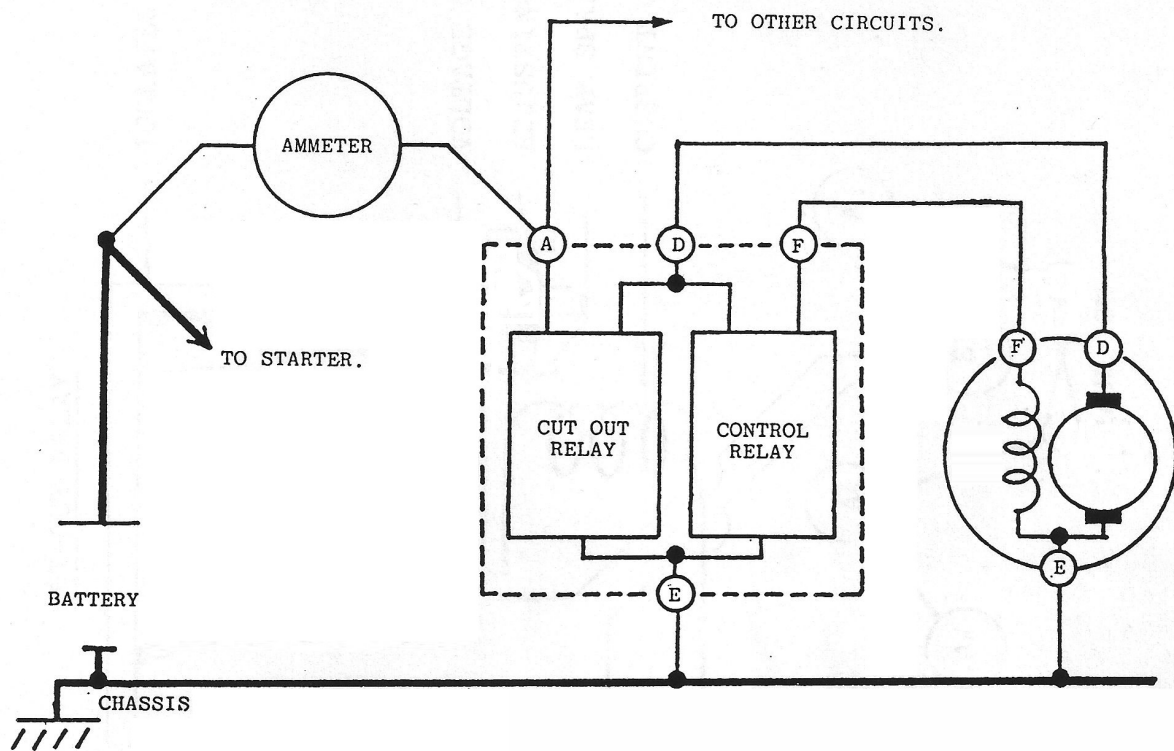
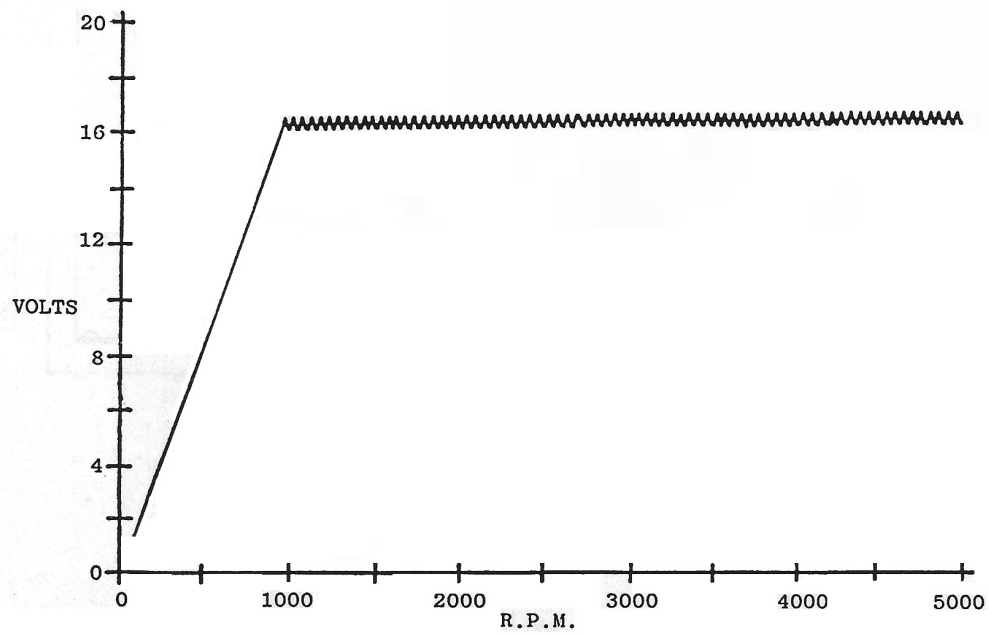

Fig.59.
Fig.60.
The dynamo as used on Healeys can be regarded as a 'three terminal' device with mechanical power input. One terminal is the common, or earth connection, 'D' is the output connection at which there should ideally be a constant voltage, and the field terminal 'F' is the one to which a control input is applied. The functions of the Voltage Regulator are two fold, firstly to control the dynamo field current in such a manner that the output voltage is virtually constant, and secondly to isolate the dynamo from the rest of the circuit when the driven speed is below that at which a useful output can be maintained. Fig.59 shows a simplified charging circuit, and Fig.60 is an idealised graph of open circuit dynamo voltage against engine speed. At very low r.p.m. the output terminal 'D', due initially to residual magnetism, is routed by the control relay directly to the field 'F', and as the voltage is low the remainder of the wiring is isolated by the cut-out. An increase in engine speed will cause the voltage at 'D' to rise, and when the critical level is reached, the cut out relay will energise and connect the dynamo output to the rest of the circuit.
5. Start the engine. Slowly increase r.p.m. and observe that the voltage increases until it stabilises and becomes independent of further speed increases. (See Gazette No.15, Fig.60)